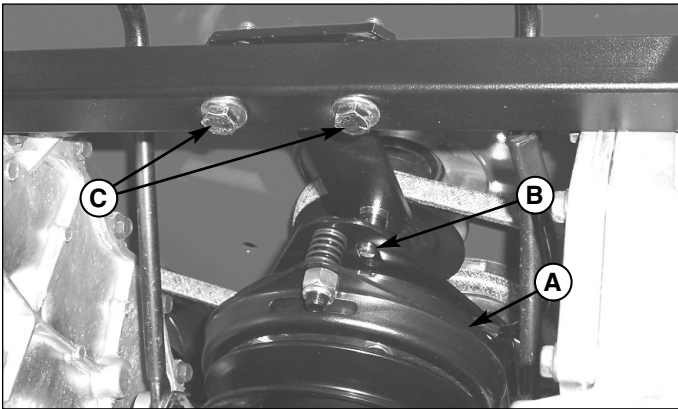
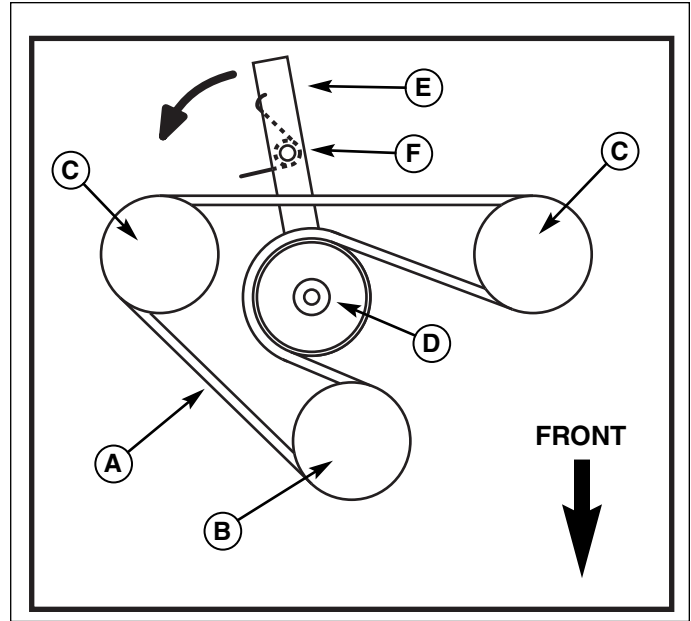

Figure 33a. Anti-Rotation Bracket (View Looking Back from Mower Deck)
Figure 33b. Transmission Drive Belt Replacement (Shown from Below; Components Removed for Clarity)
3. Relieve tension on the transmission belt (A, Figure 33a) by moving the idler arm (E) in the direction indicated by the curved arrow, and remove the old belt from the crankshaft and transmission pulleys.
4. Loosen (do not remove) the anti-rotation bracket hardware (C, Figure 33a), and slip the old belt out between the anti-rotation pin (B) and the PTO (A).
- C. Transmission Pulley (2)
5. Reversing steps 3-4, install the new belt, following the routing in Figure 33b. Make sure the V-side of the belt runs in the grooves of the crankshaft pulley and transmission pulleys (B & C). Also, make sure that the anti-rotation pin (B, Figure 33a) is inserted into the anti-rotation slot on the PTO before tightening hardware (C).